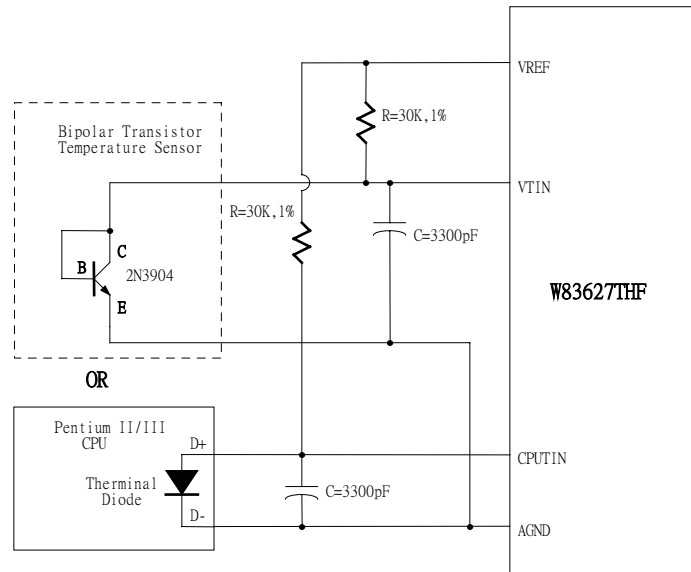

Figure 3-3
The W83627THF can alternate the thermistor to Pentium II™/Pentium III™ thermal diode interface or transistor 2N3904 and the circuit connection is shown as Figure 3-3. The pin of Pentium II™/Pentium III™ D- is connected to AGND and the pin D+ is connected to temperature sensor pin in the W83627THF. The resistor R=30K ohms should be connected to VREF to supply the diode bias current and the bypass capacitor C=3300pF should be added to filter the high frequency noise. The transistor 2N3904 should be connected to a form with a diode, that is, the Base (B) and Collector (C) in the 2N3904 should be tied together to act as a thermal diode.